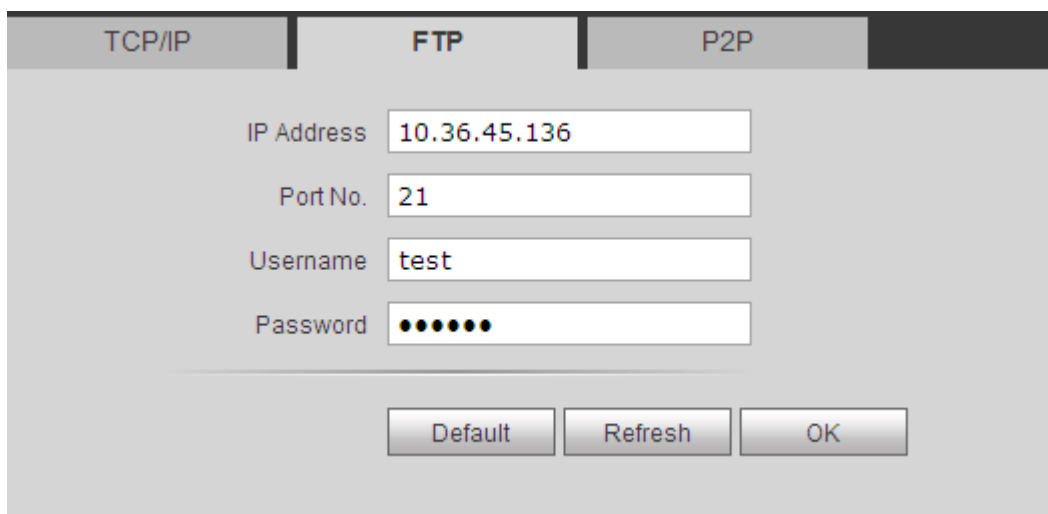

Figure 5-12
Step 1. You can go to System Config>Network>FTP, to set local FTP network parameter. See Figure 5-12.